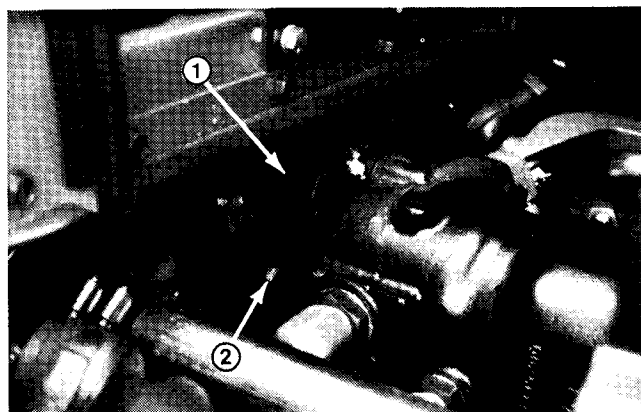

Figure 23
4. Remove two (2) capscrews securing steering/auxiliary pump to variable displacement pump (Fig. 23). Pull steering auxiliary pump away from variable displacement pump. Do not disconnect hydraulic lines from steering/auxiliary pump.